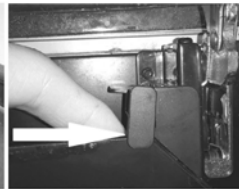

Fig. 4
7. Finally, push the „levers“ on both sides back as shown in Fig. 4.